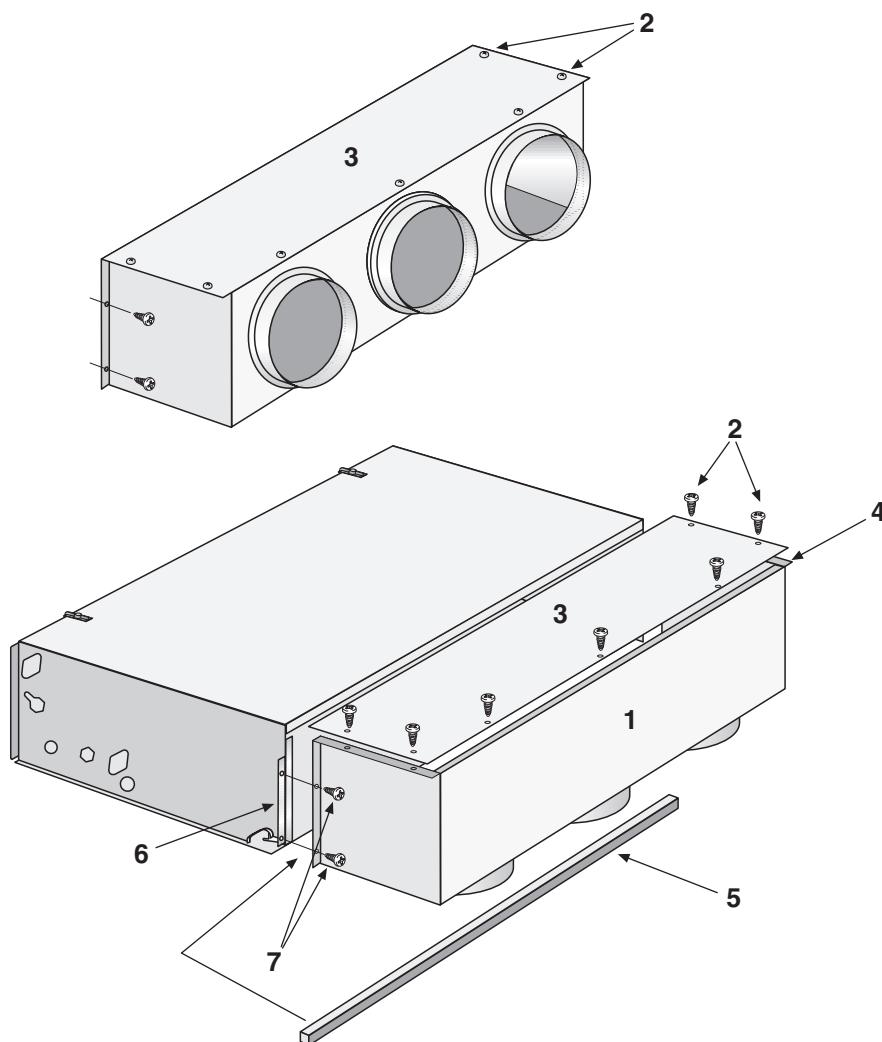

Fig. 2
Nell'ipotesi si voglia modificare la direzione di aspirazione si deve (Fig. 2):
- press the gasket (5) against the lower side of the plenum in order to avoid air by-pass around the connection with the air filter ;
- fasten the fixing screws (7) to the base of the unit (6);
*Should you wish to change the suction direction, proceed as follows (Fig. 2):*
- unfasten the screws (2) fixing the closing element (3);
- turn the element and fix it to folds (4) of the frame (1) using the same screws (2);
- press the gasket (5) against the lower side of the plenum in order to avoid air by-pass around the connection with the air filter;
- fix the plenum PA to the base of the unit (6) using screws (7);
Si on souhaite modifier la direction de reprise, il faut (Fig. 2):
Soll die Ansaugrichtung geändert werden, ist Folgendes auszuführen (Abb. 2):